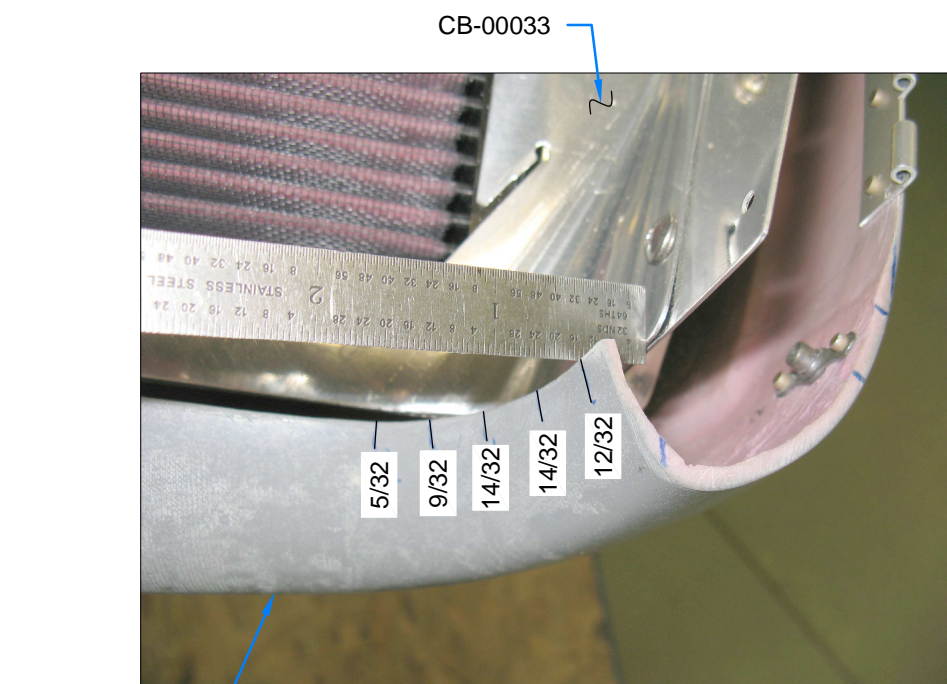

FIGURE 3: MEASURE GAP
Step 3: Measure the distance between the bottom cowl inlets and the air filter frame cover and right air ramp at five equally-spaced points as shown in Figure 3. Mark each dimension on the bottom cowl.